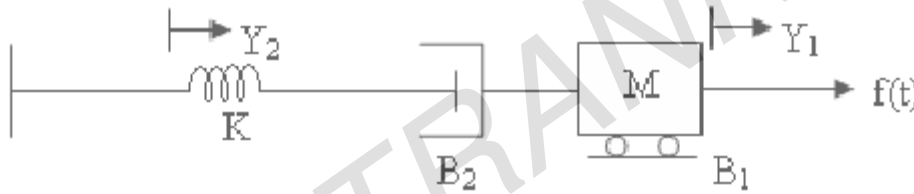

Figure 8:
- For the mechanical system shown in figure 8, determine the transfer function  $\frac{Y_1(s)}{F(s)}$  and  $\frac{Y_2(s)}{F(s)}$ . [16]